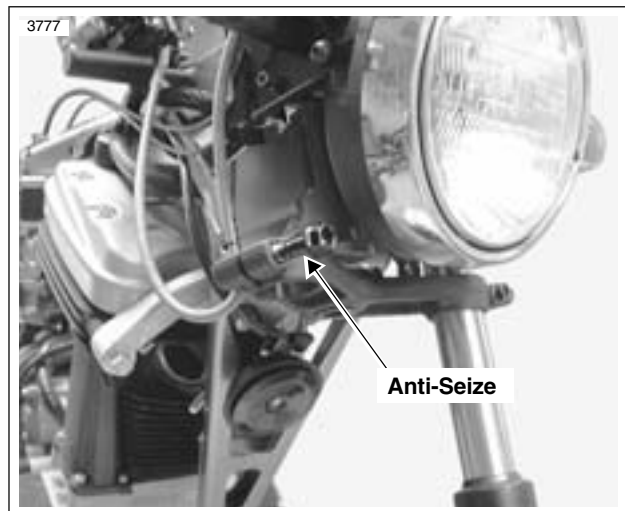

Figure 2-87. Triple Clamp Pinch Screw
2. See Figure 2-87. Apply LOCTITE ANTI-SEIZE to the threads of triple clamp pinch screws.